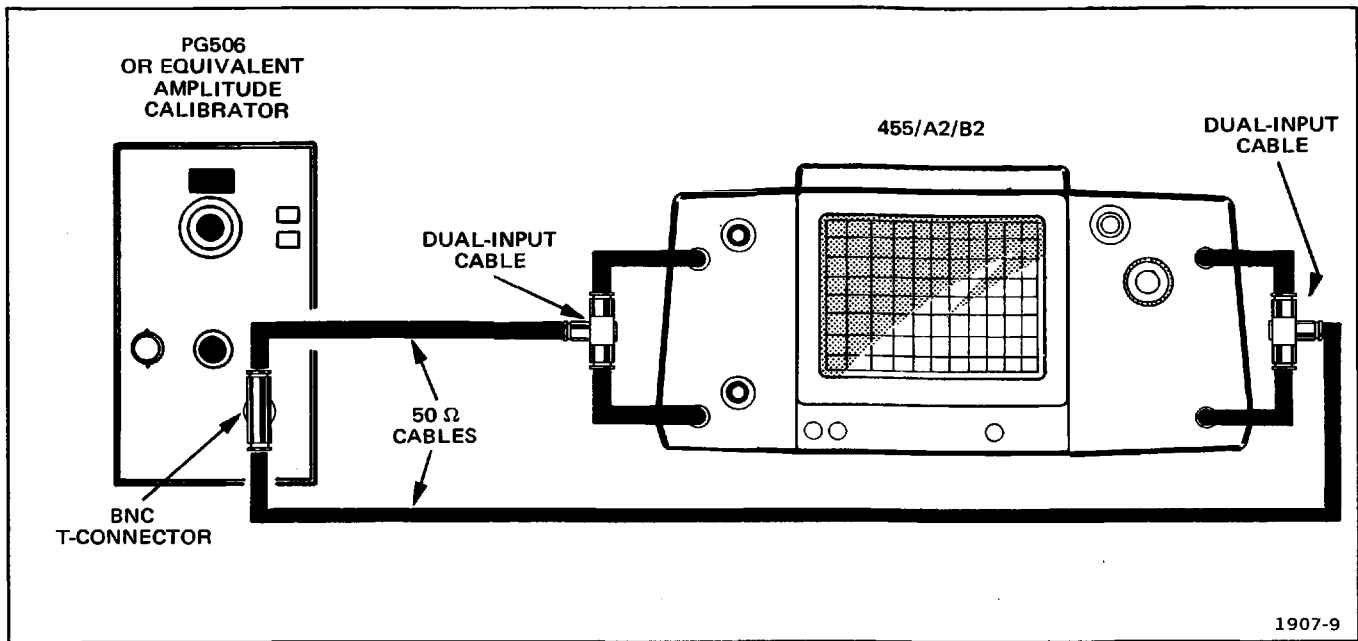

Fig. 3-1. Amplitude calibrator test setup.
- a. Connect amplitude calibrator as shown in Fig. 3-1.